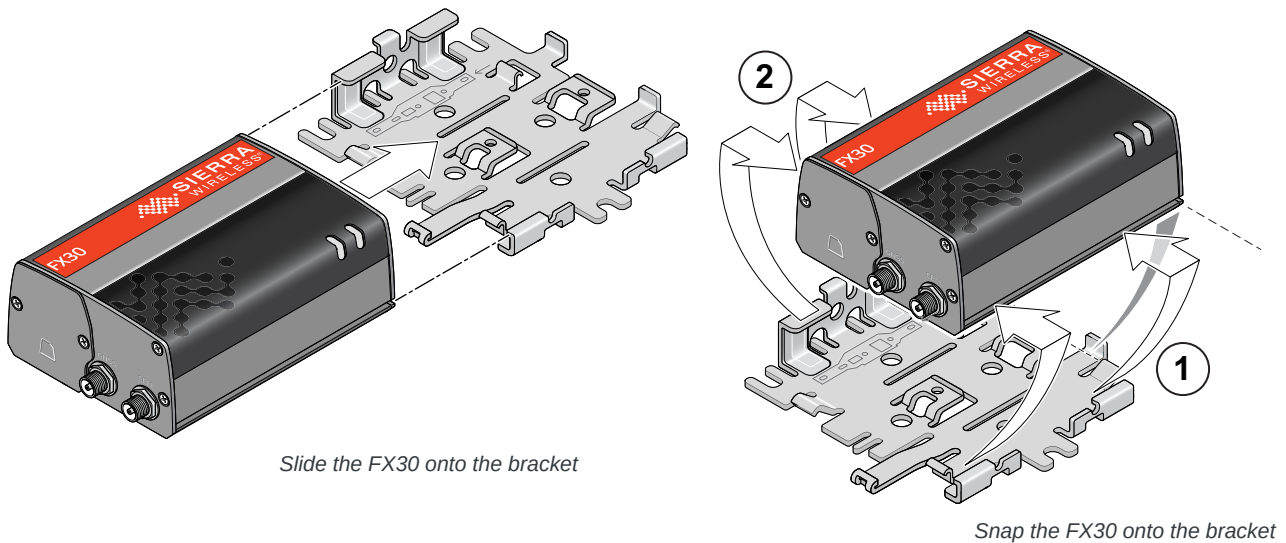

Figure 2-4: Attaching the FX30 to the bracket
2. Slide or snap the FX30 onto the bracket, as shown in Figure 2-4.